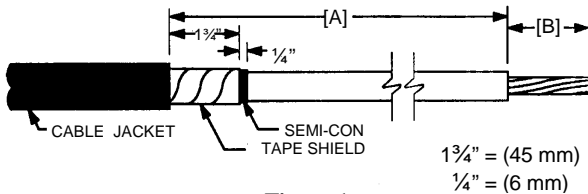

Figure 1
2. Remove jacket, metallic tape shielding, semi-con and insulation as shown in **Figure 1** and **Table 2**. (Be sure to allow for depth of lug barrel [B].)